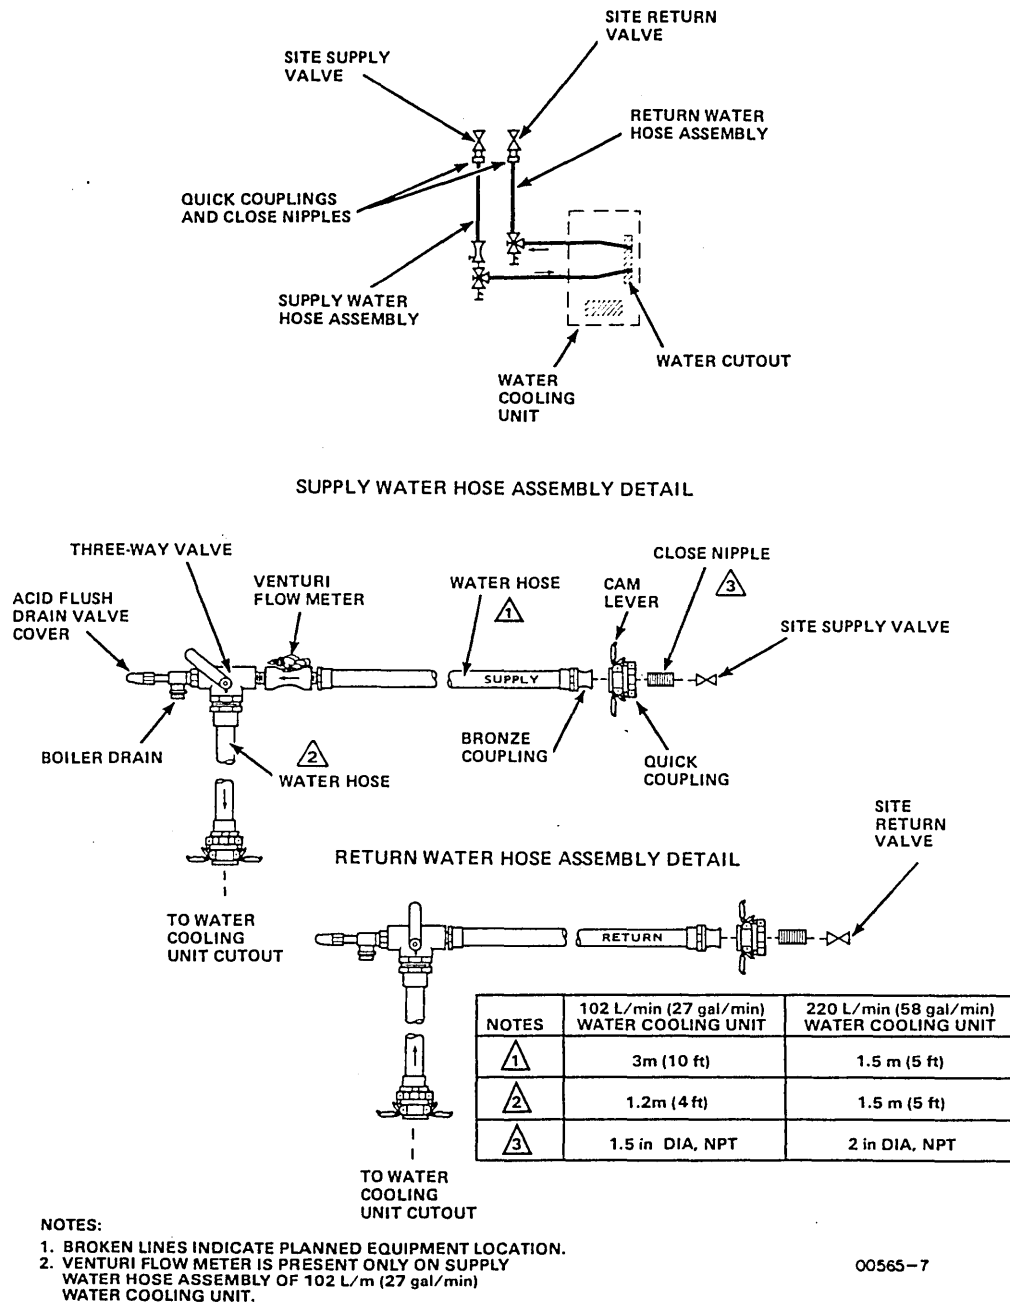

Figure 2-2. Water Cooling Unit Site Supply and Return Hose Assemblies
- ___ 2. Place supply and return hose assemblies (figure 2-2) under raised floor between site water valves and water cooling unit water cutout.